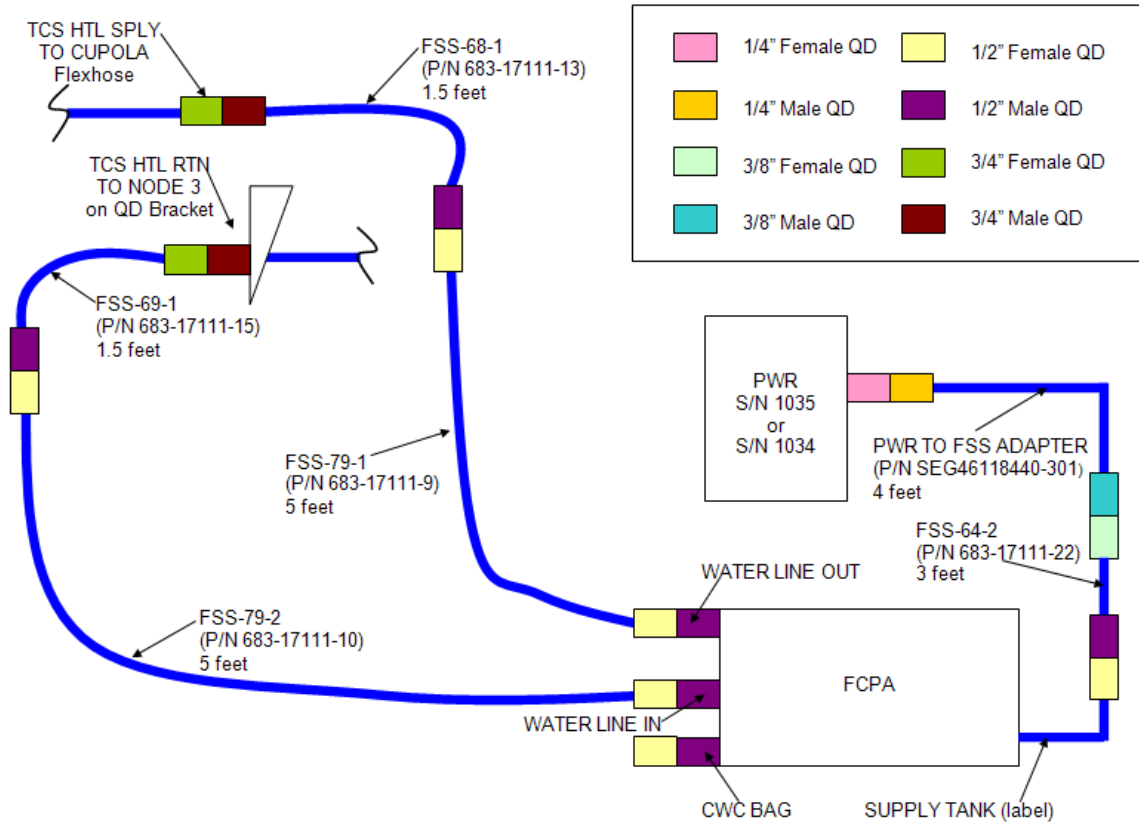

Figure 9.- FSS and Jumper Configuration for Cupola Fill.
2. PWR S/N 1035 and associated jumpers shown in Figure 9 will not be connected until step 13.